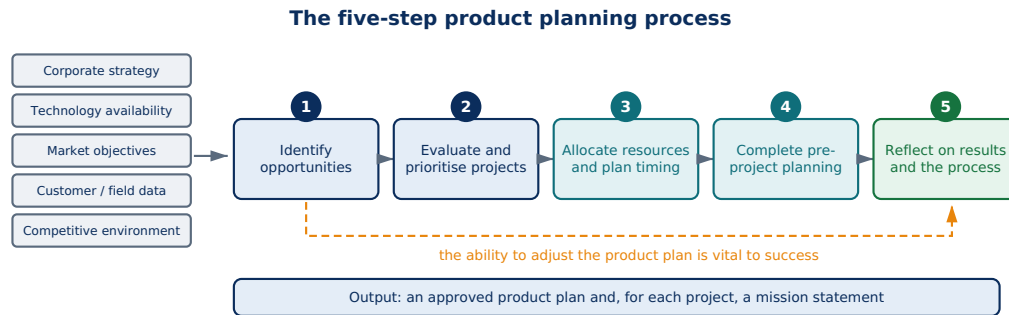

Fig 2.4 — The five-step product planning process
- Draw the five-step flow (Fig 2.4), with the inputs shown feeding step 1: corporate strategy, technology availability, market objectives, customer/field data, competitive environment.
- Add the portfolio map (Fig 2.4) to show how the four types are balanced against technical risk and return.